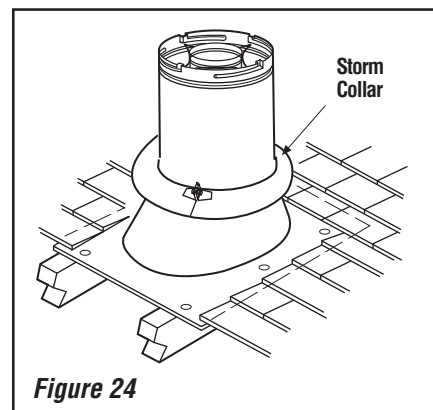

Figure 24
I. Install the roof flashing - Extend the vent sections through the roof structure. Install the roof flashing over the vent section and position such that the vent column rises vertically (use carpenter's level) (**Figure 24**). Nail along perimeter to secure flashing or adjust roofing to overlap the flashing edges at top and sides only and trim where necessary. Seal the top and both sides of the flashing with waterproof caulking.
J. Install the storm collar - Install the storm collar, supplied with the flashing, over the vent/flashing joint. See **Figure 24**. Loosen the storm collar screw. Slide collar down until it meets the top of the flashing. Tighten the adjusting screw. Apply non-combustible caulking or mastic around the circumference of the joint to provide a water tight seal.